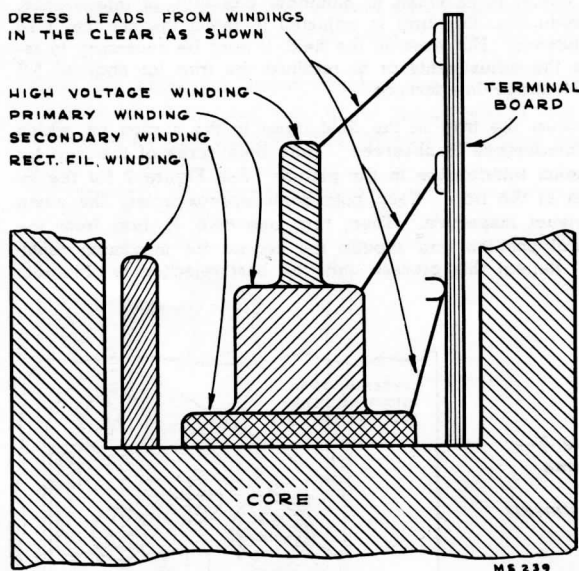

Figure 9—T105 Lead Dress
5. Dress T105 winding leads as shown in Figure 9.